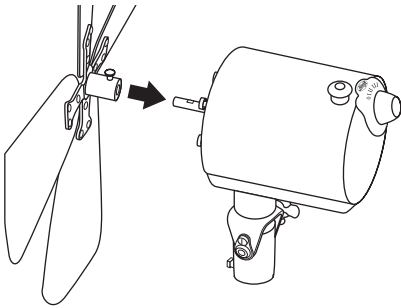

FIGURE 9
24. Slide the Blade Assembly Sleeve over the Motor Shaft, ensuring the Blade Assembly Screw is positioned over the Flat Portion of the Motor Shaft. See Figure 9. Tighten the Blade Assembly Set-screw so that it seats against the Flat Portion of the Motor Shaft. Gently pull the Blade Assembly to ensure it is secure on the Motor Shaft.
**NOTE:** For clarity, the Back Grille and Interlock Bracket have been removed from Figure 9 to show the Blade Assembly Sleeve/Motor Shaft installation.